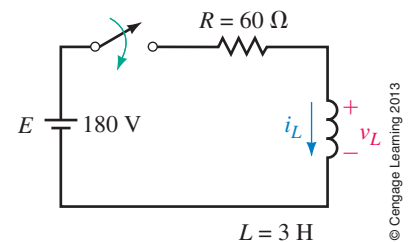

FIGURE 14-39
5. The switch of Figure 14-39 is closed at $t = 0$ s.
8. For the circuit of Figure 14-39, determine inductor voltage and current at $t = 50$ ms using the universal time constant curve of Figure 14-10.